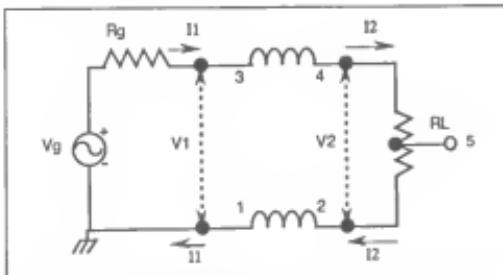

Figure 1. The Guanella 1:1balun : the basic building block
The earliest presentation on transmission line transformers was by Guanella in 1944 (2). He proposed the concept of coiling transmission lines to form a choke that would suppress the undesired mode in balanced-to-unbalanced matching applications. His 1:1 balun, also known as the Basic Building Block, is shown in Figure 1. The choking reactance, which isolates the input from the output, is usually obtained by coiling the transmission line around a ferrite core or by threading the line through ferrite beads. The objectives, in practically all cases, are to have the characteristic impedance, Z_0 , of the transmission line equal to the value of the load, R_L , (which is called the optimum characteristic impedance) and to have the choking reactance much greater than R_L (and hence Z_0). Meeting these objectives results in a 'flat' line and hence maximum high-frequency response and maximum efficiency since conventional transformer currents are suppressed.